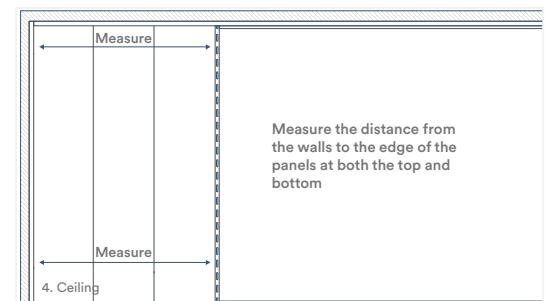

Fig. 10
6. Periodically check your installation to ensure the panels continue to be installed in straight, even rows. To do this, measure the distance from the wall to the edge of your panels at both ends of the panel (Fig. 10). If both measurements are identical, the installation is adequately aligned. If the measurements are uneven, you will need to correct the positioning of your board.